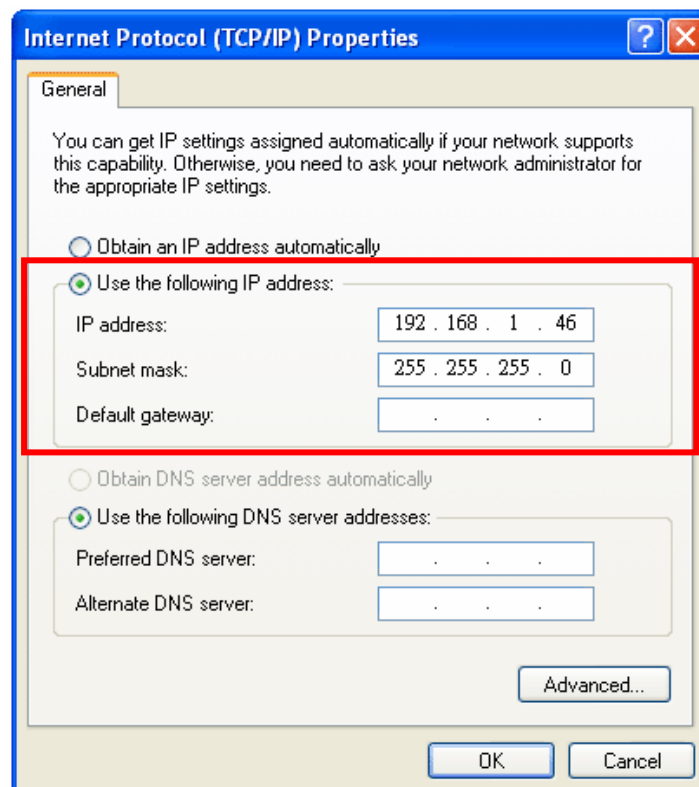

Fig. 3-4-2 IP Address Setup
- Before using Ethernet to transfer data, set up the TCP/IP address first, as shown in the following Figure 3-4-2.